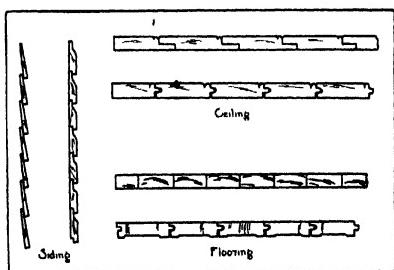

Fig. 301. Siding, Ceiling, Flooring.
13. FLOORING, (See also Fig. 301.)
- In flooring, Fig. 301, the boards are made narrow so as to reduce the size of openings at the joints when they shrink, and also to reduce the tendency to warp. They may be laid side by side as in the cheapest floors, or matched to close the joint. For difference between slash- and comb-grain flooring, see Fig 55, p. 43.
15. SIDING OR CLAPBOARDS, (See Fig. 301,) may either overlap without a joint or be rabbeded to fit. The best siding is rabbeted.
21. CEILING, Fig. 301, consists of matched boards having a "bead" to disguise the joint and give a decorative effect. .
In matched flooring, the underside of the boards is slightly narrower than the upper side so that the joint may close on the upper side without fail, Fig. 301, p. 199. The ends of flooring boards are also slightly beveled so as to make a tight fit on the upper side.